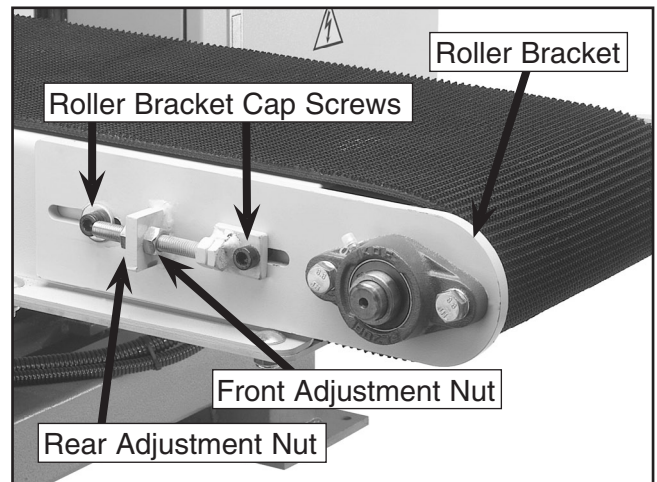

Figure 40. Roller bracket cap screws and adjustment nuts.
1. Loosen the two roller bracket cap screws (shown in **Figure 40**) about $\frac{3}{4}$ of a turn. Do this on the both sides of the conveyor.